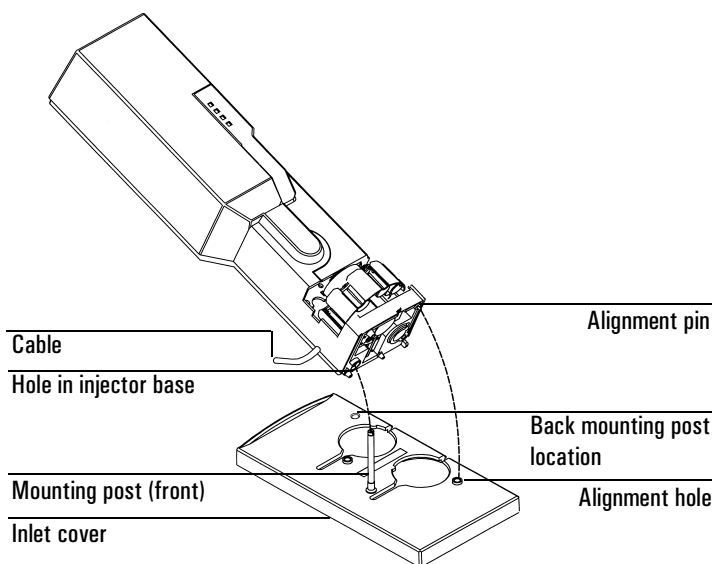

Figure 5 Mounting the injector (6890 GC shown)
5. Mount the new injector. Line up the hole in the base of the injector that is nearest the cable with the mounting post. Lower the injector about an inch (2.5 cm) onto the post. See Figure 5.